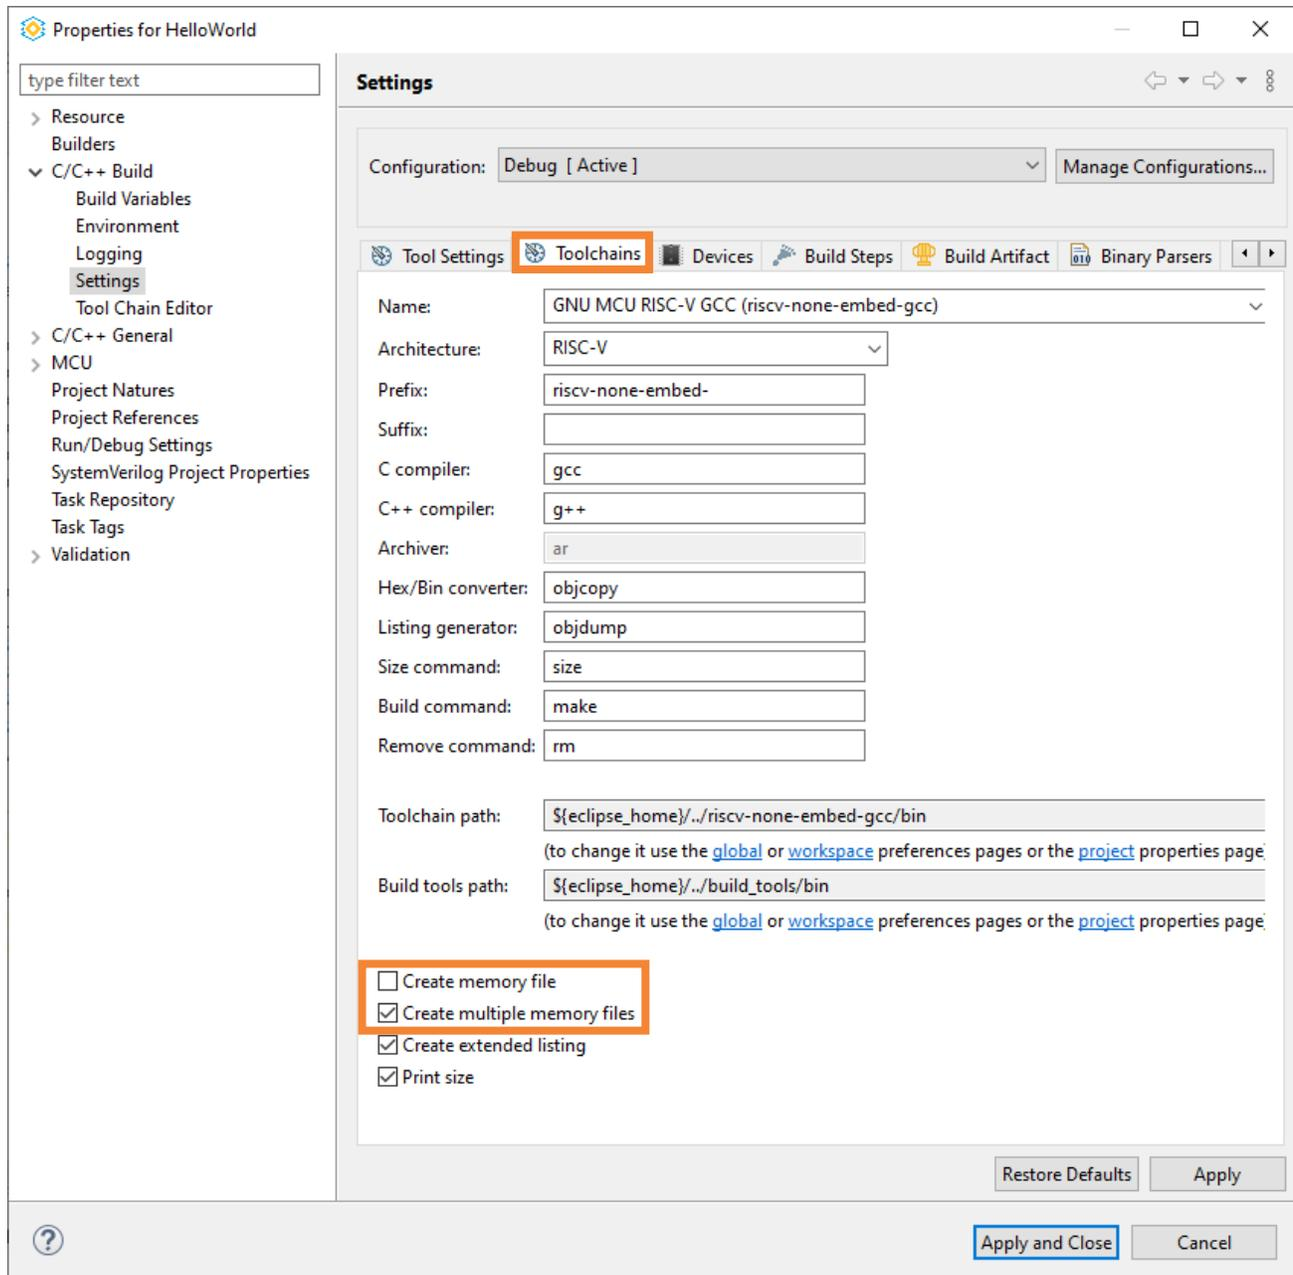

Figure A.4. Toolchains Tab of C/C++ Build Settings
3. Select **Settings** of **C/C++ Build** category from the left pane. Select the **Toolchains** tab (Figure A.4).